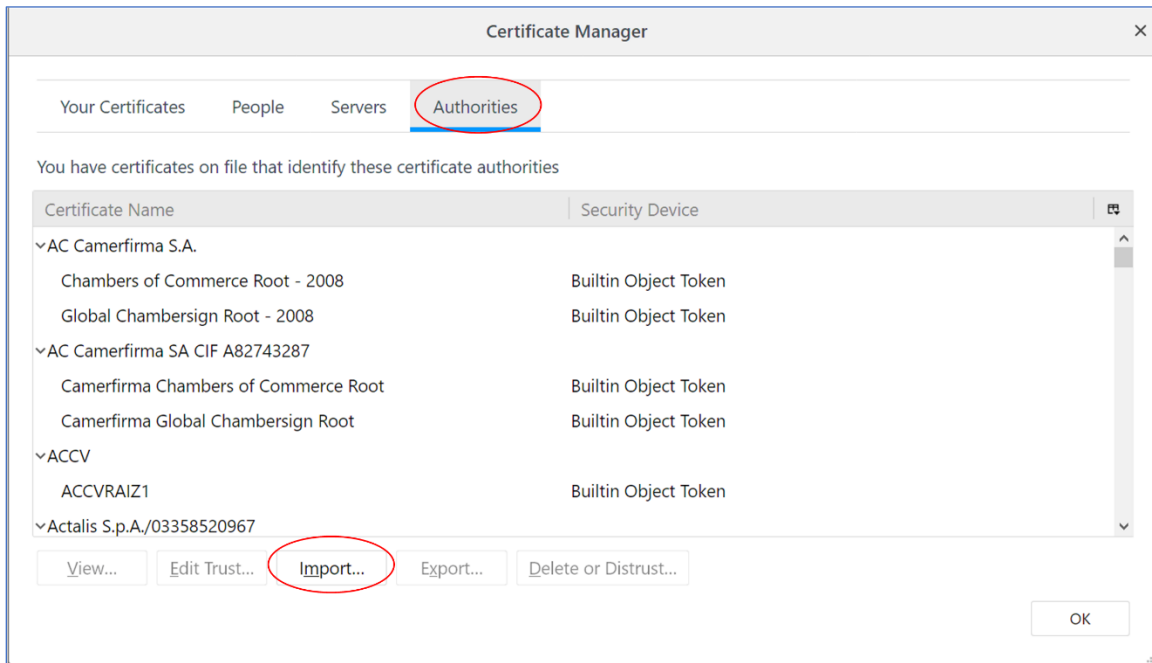

Figure 326: Firefox Certificate Manager
4. Click on the View Certificates... button to view the Certificate Manager, as shown in Figure 326.